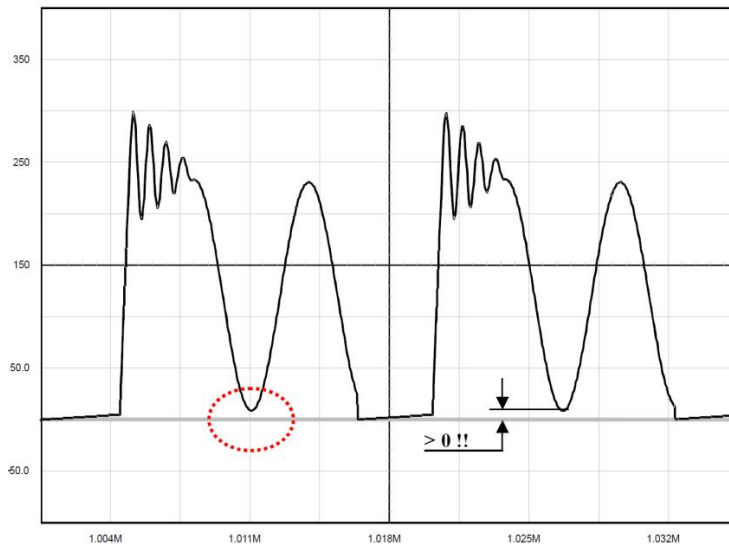

Figure 51. The Drain-Source Wave Shall Always be Positive
1. The lateral MOSFET body-diode shall never be forward biased, either during start-up (because of a large leakage inductance) or in normal operation, depicted by Figure 51. This condition sets the
and defines the amount of ripple we want in CCM, depicted by Figure 51.
Figure 53a: the simple capacitor limits the voltage according to the lateral MOSFET body-diode shall never be forward biased, either during start-up (because of a large leakage inductance) or in normal operation as shown by Figure 51. This condition sets the maximum voltage that can be reflected during t_F . As a result, the flyback voltage which is reflected on the drain at the switch opening cannot be larger than the input voltage. When selecting components, you must adopt a turn ratio which adheres to the following Equation 6. This option is only valid for low power applications, e.g. below 5 W, otherwise chances exist to destroy the MOSFET. After evaluating the leakage inductance, you can compute C with (Equation 7). Typical values are between 100 pF and up to 470 pF. Large capacitors increase capacitive losses...